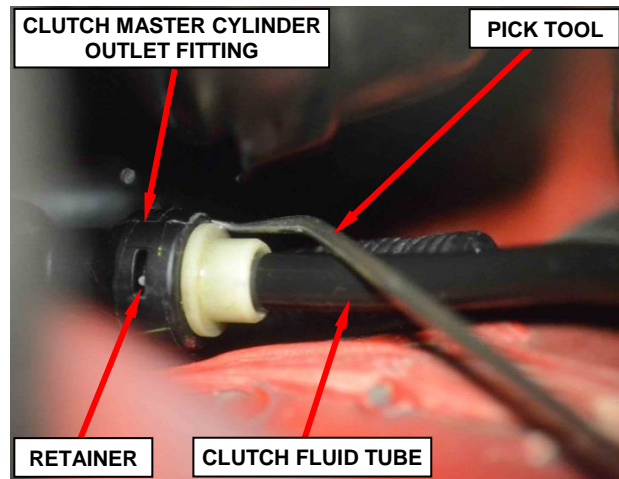

Figure 7 – Clutch Fluid Tube at Clutch Master Cylinder Outlet Fitting
16. Use a long pick tool to release the retaining clip then disconnect the clutch fluid tube from the clutch master cylinder outlet fitting and plug both openings (Figure 7).
44. Connect the clutch fluid tube to the clutch master cylinder (Figure 7).